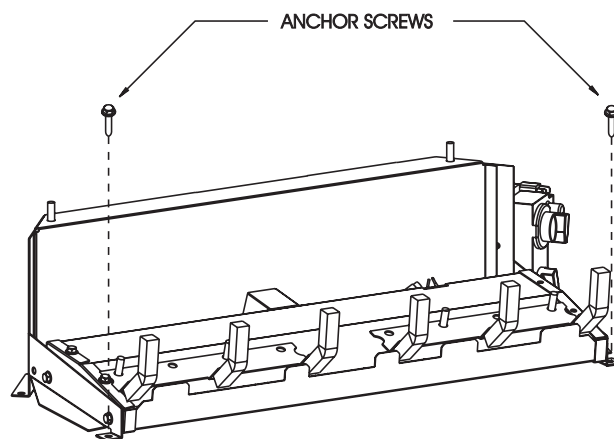

Figure 10
## Assembly Procedure: (Figure 10)
2. An anchor hole is provided in the two bottom side members of the grate frame. After centering the grate correctly, mark the hole positions on the fireplace/firebox floor. Drill two (2) 5/32" diameter holes approximately 1-1/2" deep for masonry screws or 1/8" hole for sheet metal screws.
3. Anchor the grate to the fireplace/firebox floor using the screws provided. Refer to Figure 10.